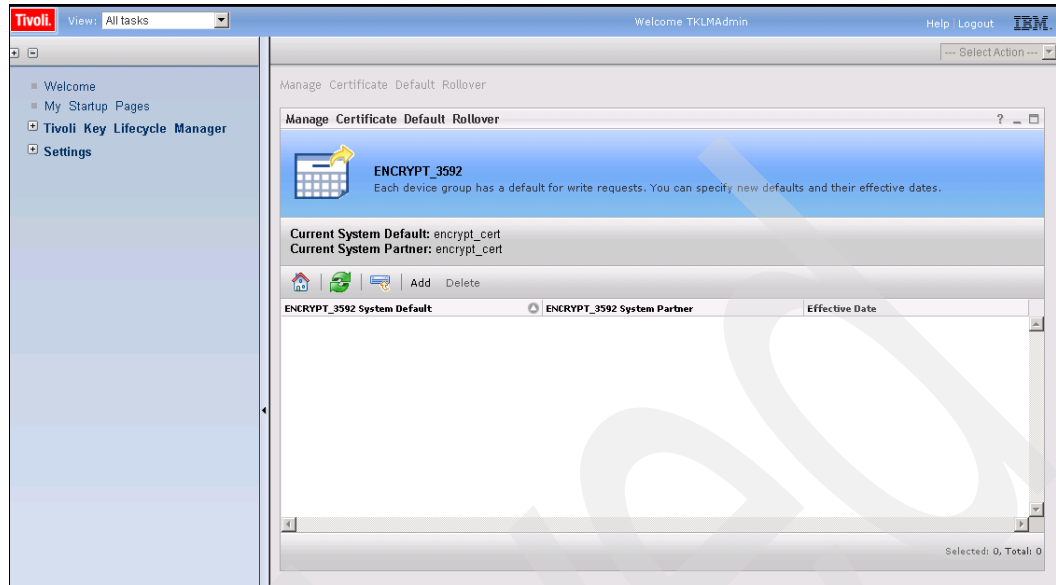

Figure 9-71 Manage certificate default rollover panel
3. Click **Add** (Figure 9-71).